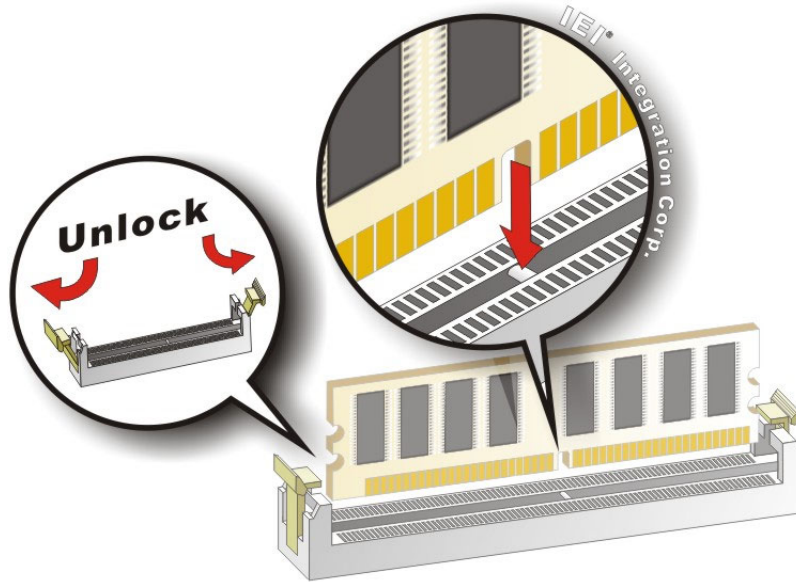

Figure 4-1: DIMM Installation
To install a DIMM, please follow the steps below and refer to **Figure 4-1**.
- Step 1: Open the DIMM socket handles.** Open the two handles outwards as far as they can. See **Figure 4-1**.
- Step 2: Align the DIMM with the socket.** Align the DIMM so the notch on the memory lines up with the notch on the memory socket. See **Figure 4-1**.
- Step 3: Insert the DIMM.** Once aligned, press down until the DIMM is properly seated. Clip the two handles into place. See **Figure 4-1**.